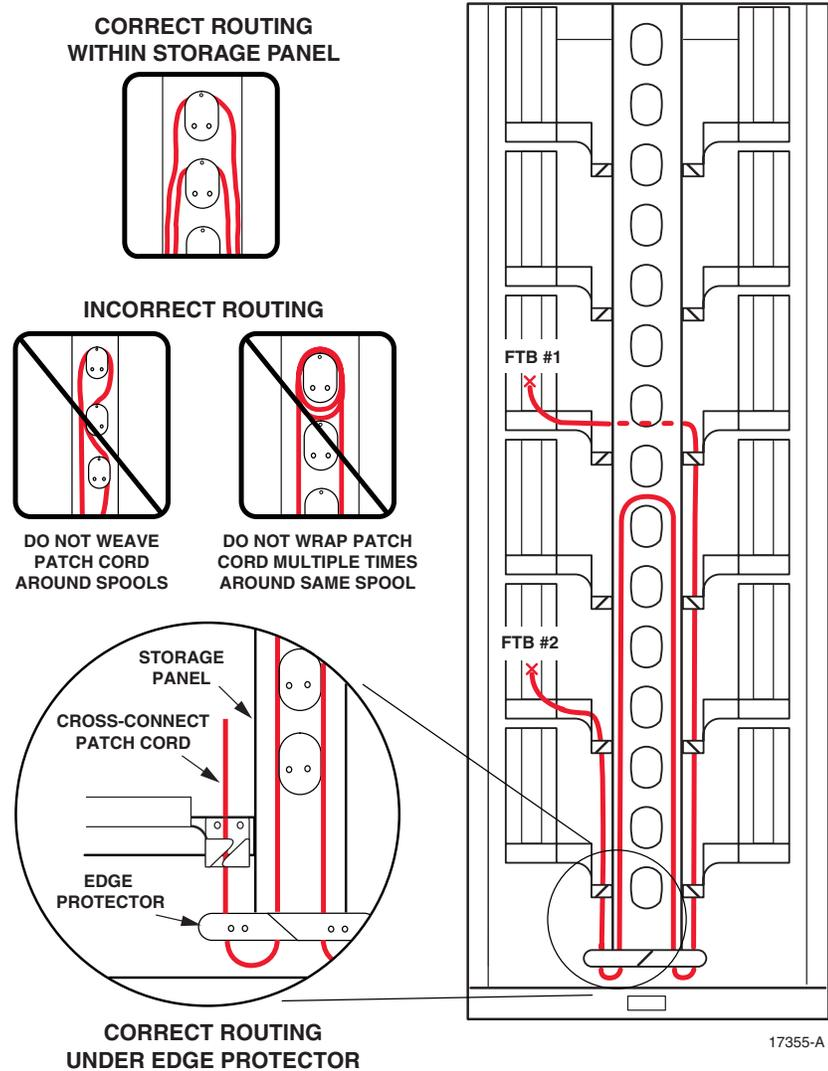

Figure 17. Patch Cord Routing on Front of Rack
- In all cases, when routing and storing patch cords on the front of the frame, observe the guidelines indicated in Figure 17.